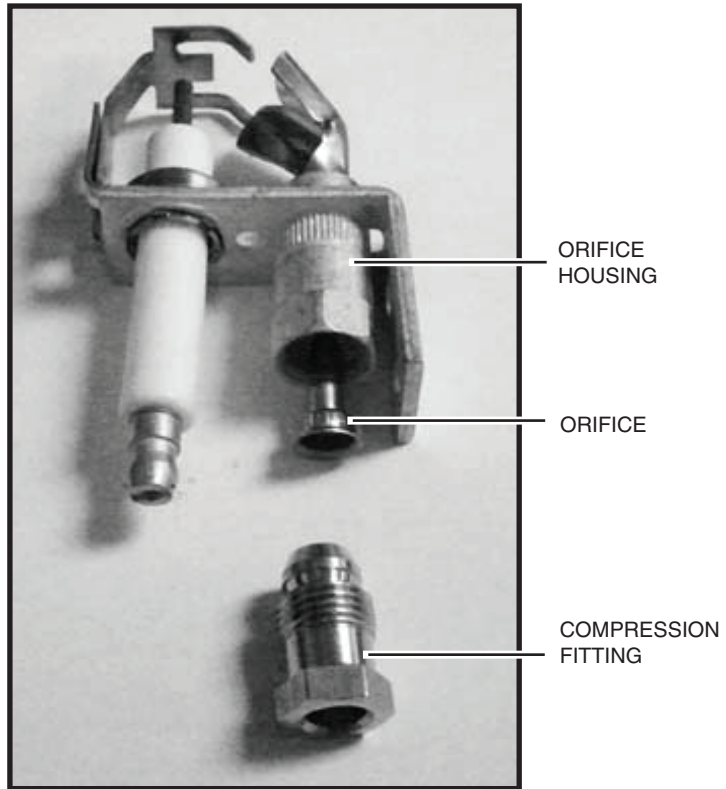

Figure 2: Orifice insert.
2. Insert the propane orifice that came in your instruction pack as shown into the orifice housing and reattach the pilot to the compression fitting and pilot tube (Figure 2) & (Figure 3).